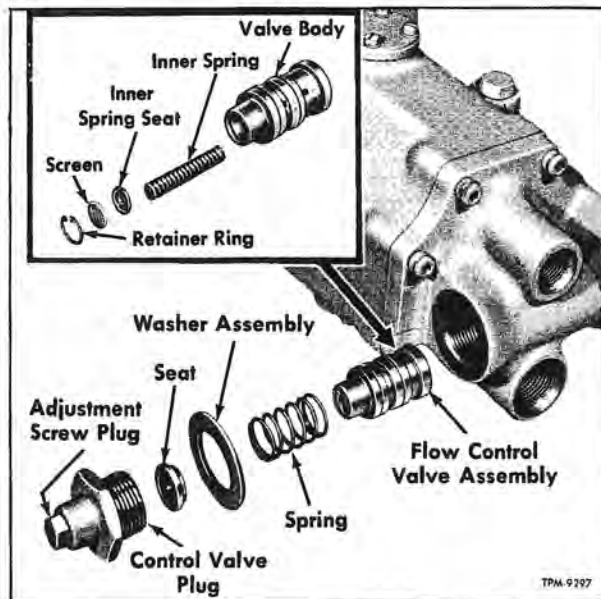

Figure 33—Pump Flow Control Valve Components
2. Remove flow control valve plug which is the large hex plug having a small adjustment screw cover plug at the end. See figure 33. DO NOT REMOVE SMALL END PLUG.
3. Referring to figure 33, remove seat, washer assembly, valve outer spring and valve assembly from pump. Use extreme care not to damage valve.
7. Carefully insert flow-control valve assembly into pump. NOTE: Do not attempt to force valve into valve bore. Also make sure proper end of valve is inserted first; refer to figure 33 for position of parts. If valve temperature is higher than temperature of pump it may be impossible to install valve. Wait until temperature of both parts equalize.
8. Referring to lower view of figure 33, install spring, washer assembly, spring seat, and control valve plug assembly. Tighten plug firmly.